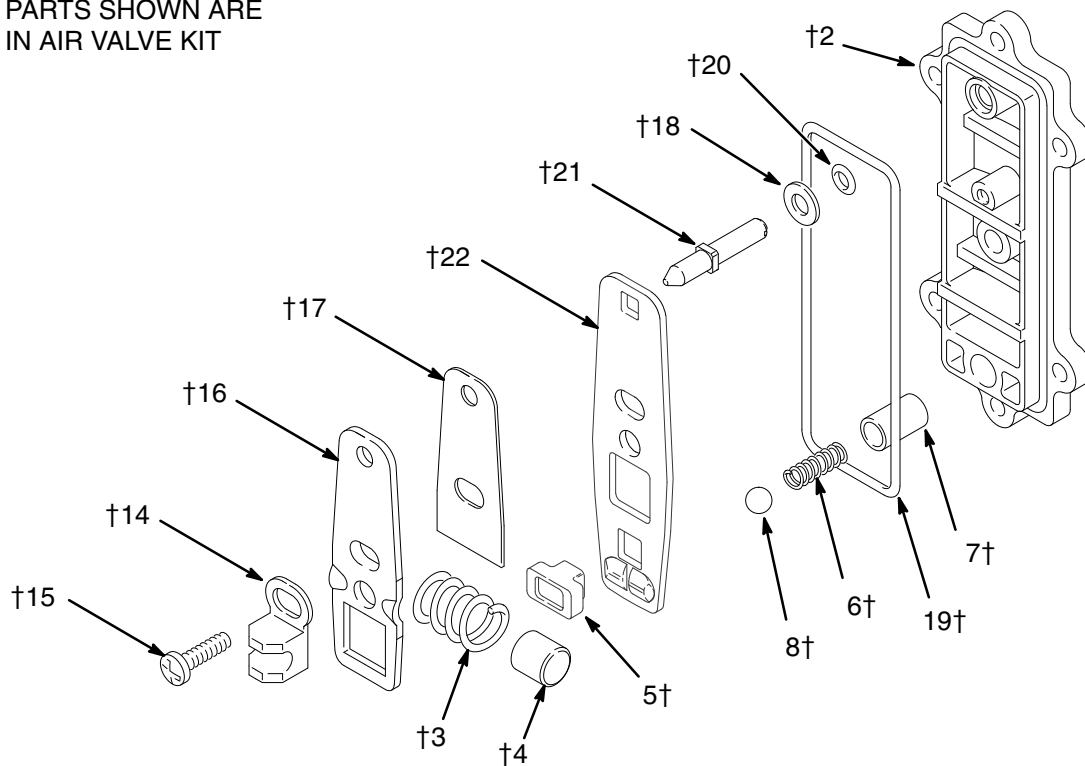

Fig. 12
2. Remove the air valve (A) from the pump (see page 14).
3. Remove the screw (15) and shift saddle (14). See Fig. 12.
4. Disassemble the link assembly, consisting of the actuator link (16), spacer (17), detent link (22), spring (3), stop (4), and valve cup (5).
5. Remove the detent ball (8) and spring (6). The detent collar (7) is a press-fit and should not need removal; if it does require replacement, you should also replace the cover (2).
6. Remove the reset shaft (21), o-ring (20) and washer (18).